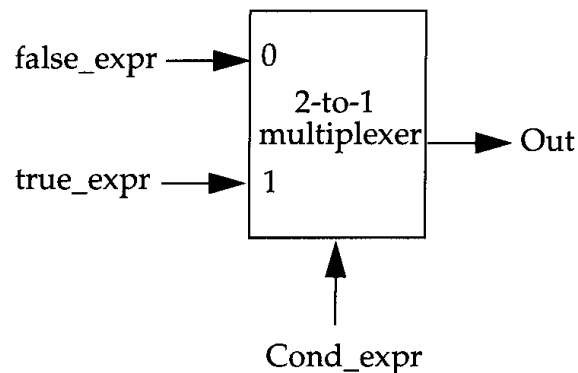

Fig.3.11: 2:1 mux
- The conditional expression acts as a switching control. The action of a conditional operator is similar to a multiplexer as shown in fig.3.11. Alternately, it can be compared to the if-else expression.